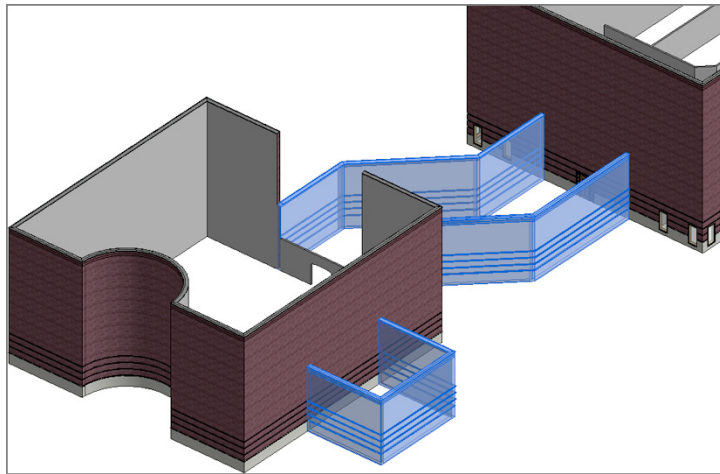

FIGURE 3.30: The final walls are constrained to the Corridor Parapet level.
7. In the Constraints category of the Properties dialog, set Top Constraint to Up To Level: Corridor Parapet (see Figure 3.30).